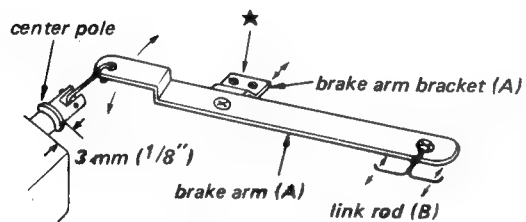

Fig. 5-1-9. Brake torque adjustment (3)
10. Check to see that the center pole of the solenoid should be pulled out from the solenoid by approx. 3 mm (1/8") in STOP mode as shown in Fig. 5-1-9.